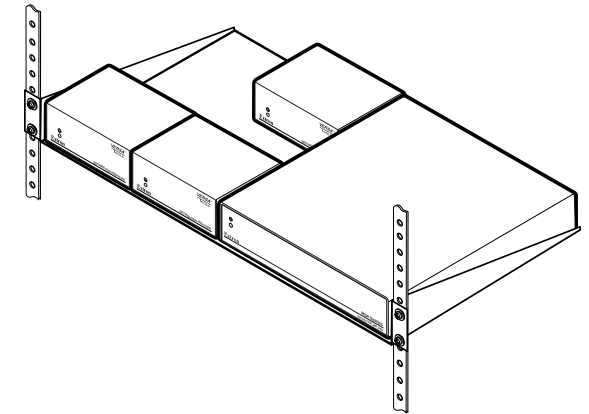

Figure 2 — MDAs mounted on a standard rack shelf
- RSU 129 1U universal rack shelf kit (part #60-190-01) (figure 2)